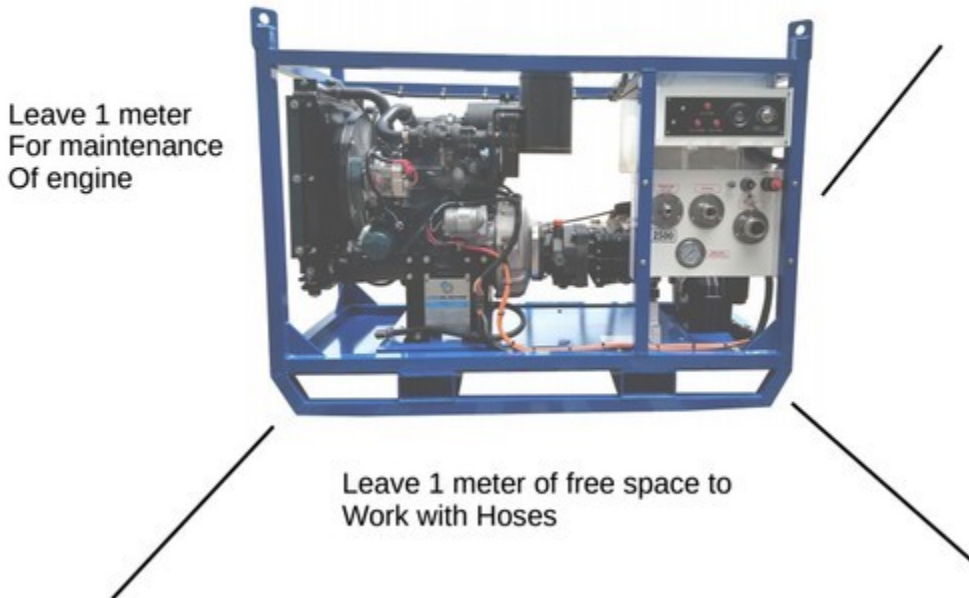

Figure 4.5 – Installation Guidelines
* Enclosed installations will require provisions for adequate engine cooling air flow and for venting of engine exhaust. See Figure 4.5 below.